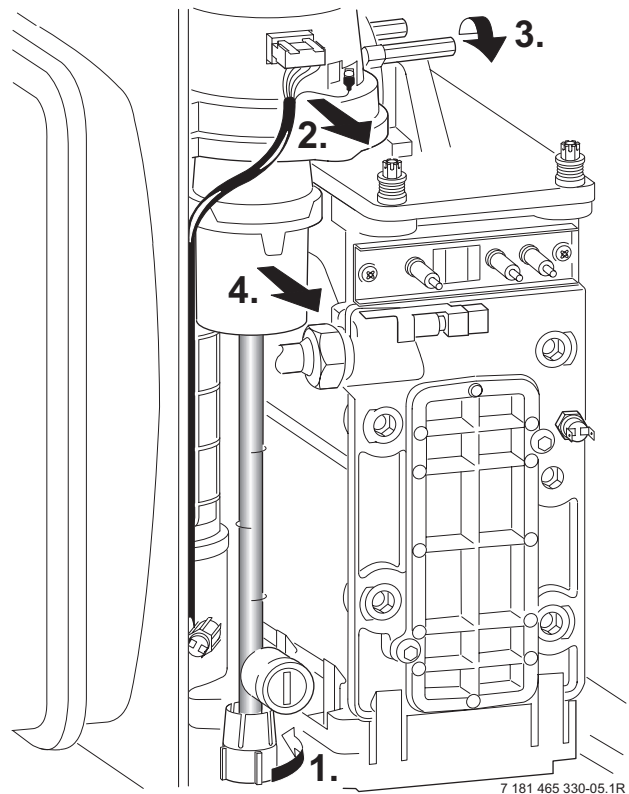

Fig. 57
- Undo lower pipe union on gas pipe (1.). Refer to fig. 57.
- ▶ Undo the union, within the inner casing, securing the valve to the gas/air tube. Refer to fig. 57.